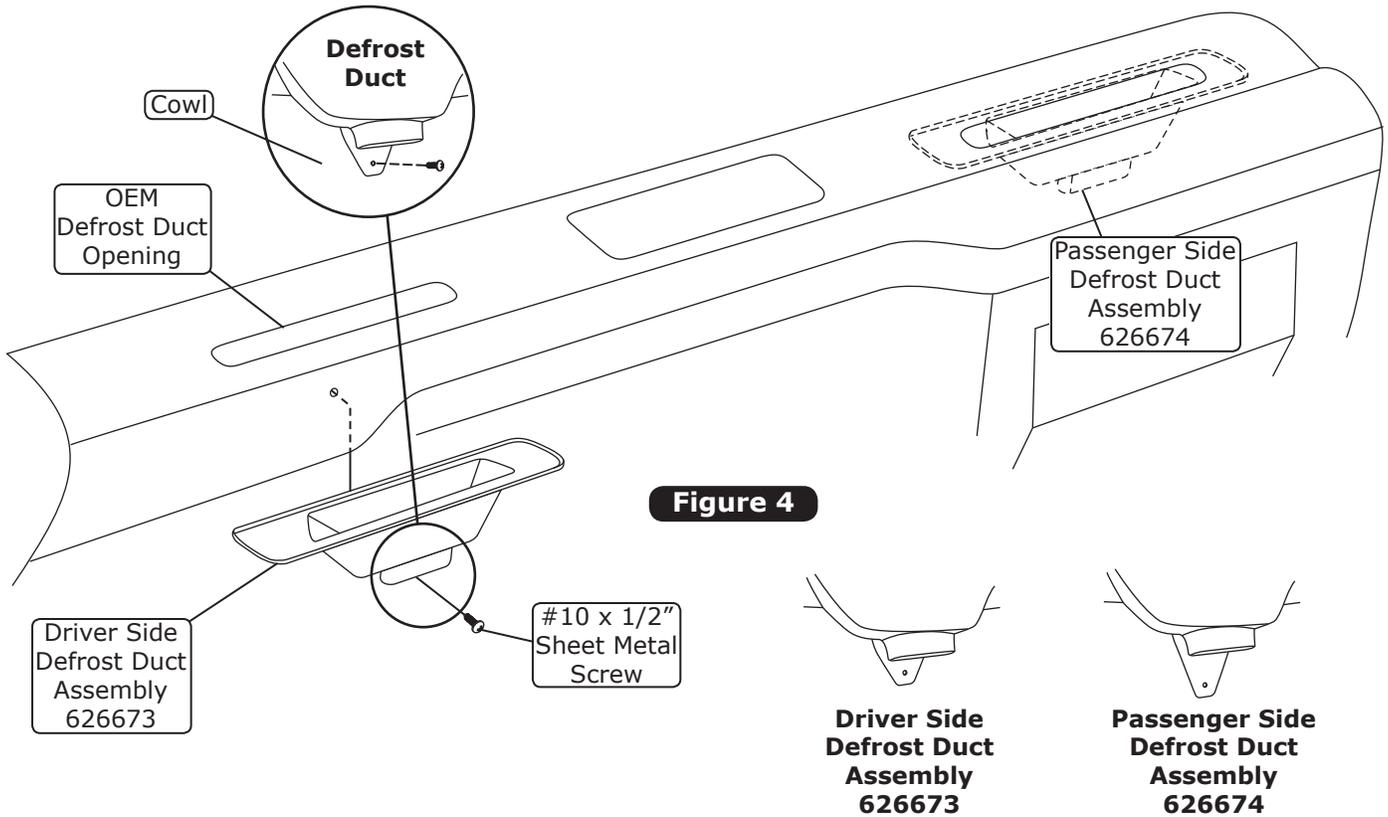

Figure 4
1. Install the defrost ducts under the dash, aligning them with the OEM opening. Secure the defrost ducts to the cowl using #10 x 1/2" sheet metal screws as shown in Figure 4, below.